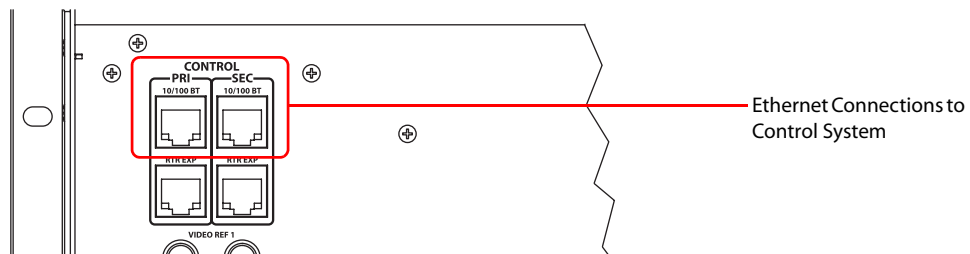

Figure 2-16. Ethernet Connections to Control System (Rear View)
- 1 Locate the Ethernet connections on the rear of the router, as shown in Figure 2-16. Ethernet control connections are labeled 'PRI' and 'SEC'.